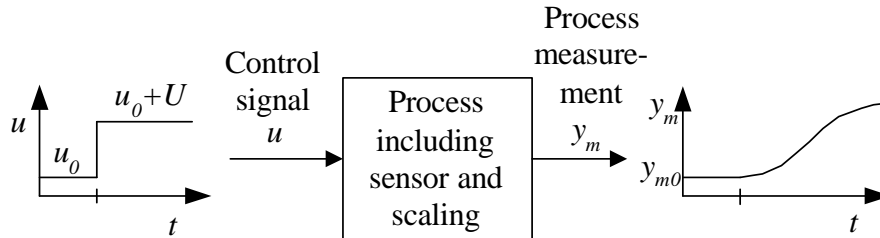

Figure 2: The Ziegler-Nichols' open loop method is based on the step response of the uncontrolled process
process measurement  $y_m$  after a step with height  $U$  in the control variable  $u$ , see Figure 2. The term “process” here means all blocks in the control loop except the controller. The step response experiment is executed on the uncontrolled process, so the control loop is open (no feedback).
2. Bring the process to the operation point by adjusting the control variable manually. This is done by adjusting  $u_0$  in Figure 2.
Figure 3 which shows the relevant part of a typical step response. In the figure the time axis starts at the step time. The annotation “0.0” along the y-axis corresponds to  $y_{m0}$  in Figure 2.  $L$  is the time from the step time to the point of intersection between the “0.0”-line and the steepest tangent.  $R$  is the slope of the steepest tangent.